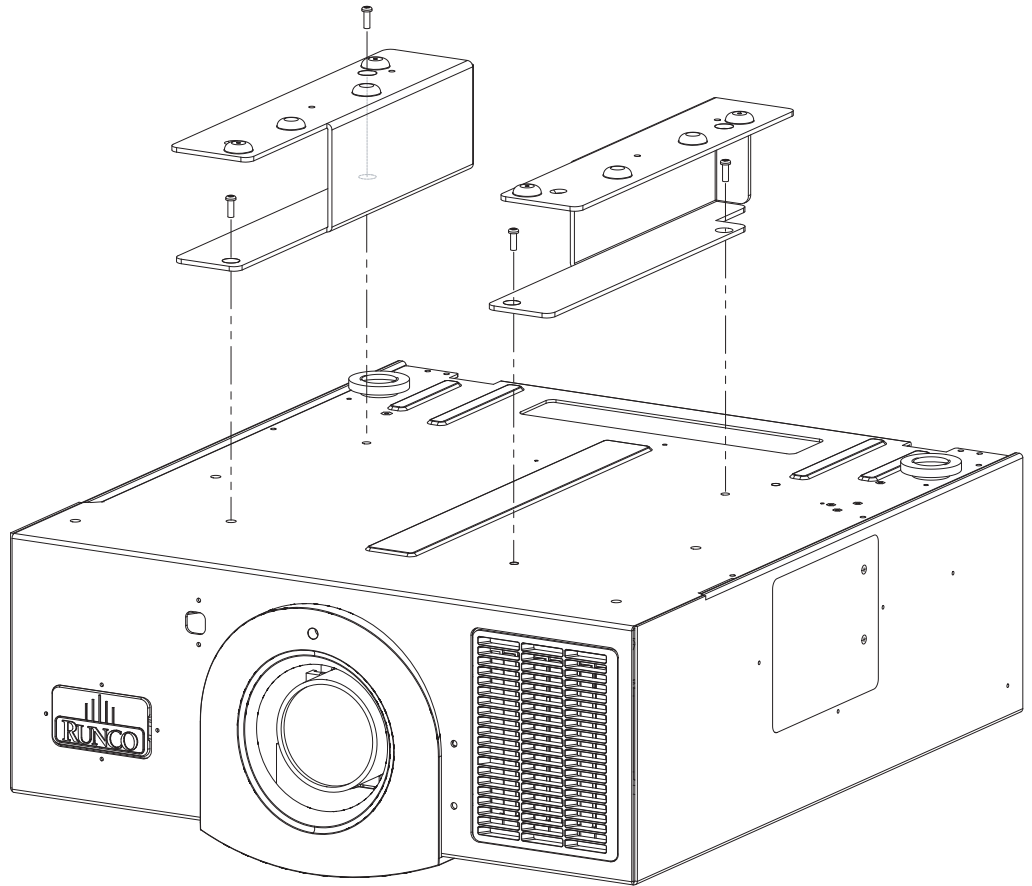

Figure 3-8. RS-900/RS1100 with Ceiling Mount Adapters/Projector Stands
Using the four (4), supplied M6 x 12mm Flat-Head Phillips screws (item #6), attach the AutoScope Ceiling Mount Adapters/Projector Stands (items #4 and #5) to the projector as shown in Figure 3-8.